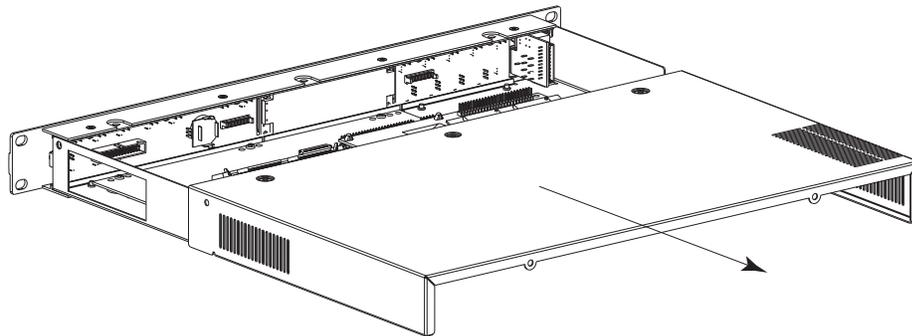

Figure 5 Removing the top panel
4. Grasp the front of the PC2R and slide the top panel straight back until it's free from the body of the PC2R (see Figure 5).